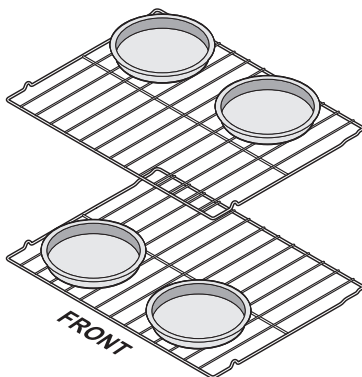

Figure 12: Pan positions two rack baking
- When baking cakes using two oven racks, position cookware as shown in Figure 12. Allow at least 2 inches (5 cm) of space between cookware for proper air circulation.